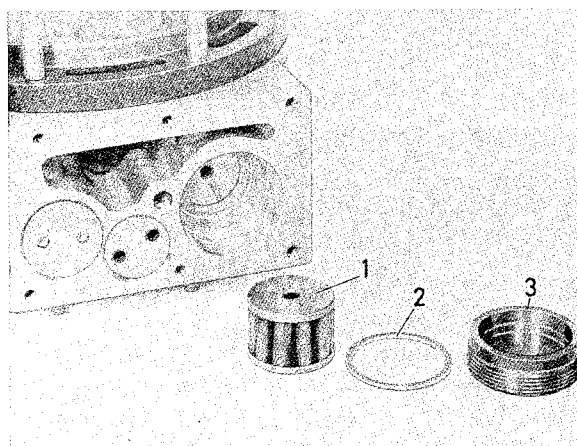

Fig. 4-44. Fine filter
2. Remove the plug and take out the seal and fine filter, see Fig. 4-44.